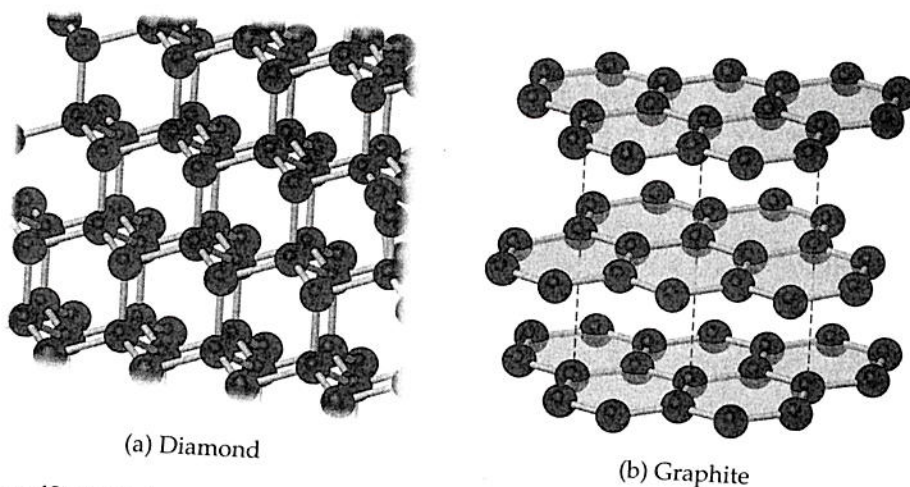

Figure 12.8 The structures of two covalent-network solids: (a) diamond and (b) graphite. Notice the planar structure of graphite.
Covalent-network solids consist of the two allotropes of carbon, diamond and graphite, as well as metalloids such as silicon and germanium and compounds of metalloids such as quartz (SiO_2), silicon carbide (SiC), and boron nitride (BN). Covalent-network solids are held together by large networks or chains of covalent bonds. Because covalent bonds are much stronger than intermolecular forces, covalent-network solids tend to be much harder and have higher melting points than molecular solids. The structures of diamond and graphite are shown in Figure 12.8.
Examine the atomic-level structures of graphite and diamond in Figure 12.8 and answer Questions 5–8.